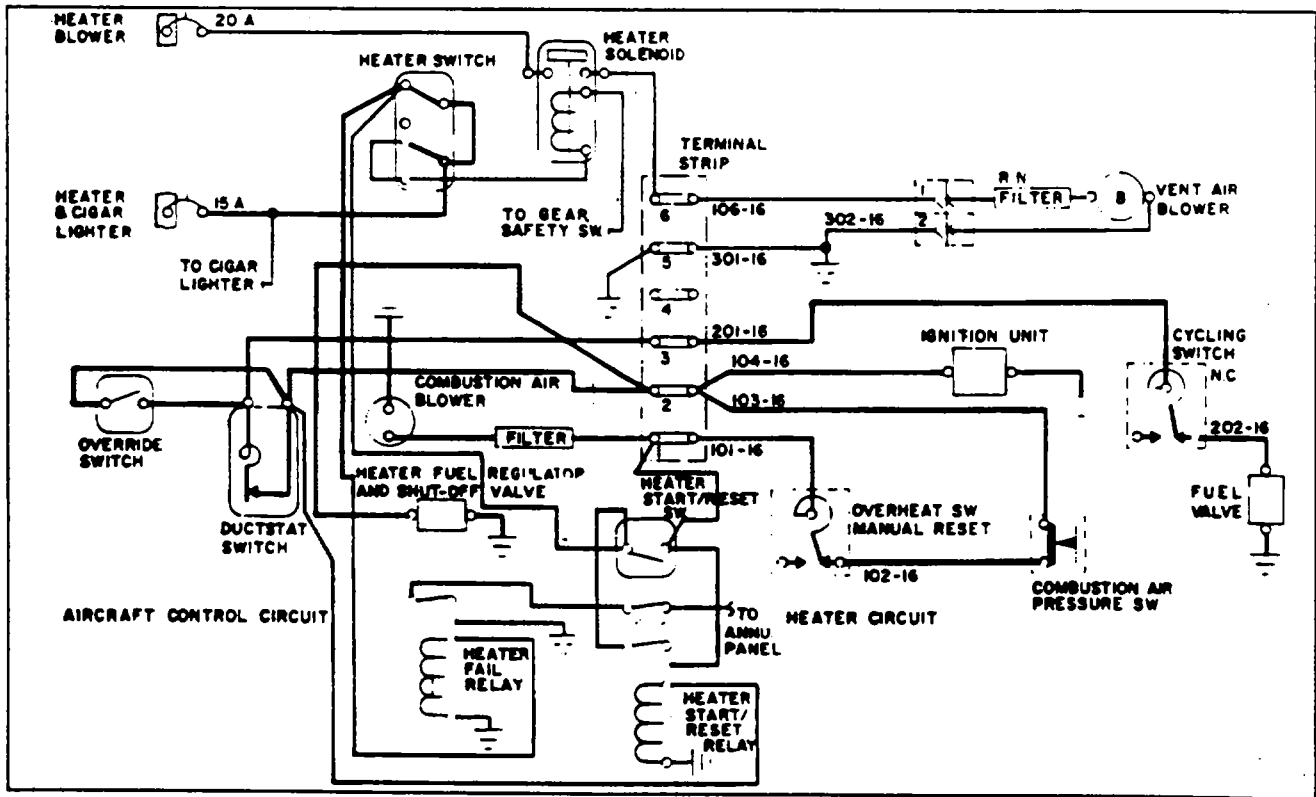

Figure 21-7. Heater Power Circuit
1. With the HEATER SWITCH in the HEAT position, electrical continuity should be present at the following locations. (Refer to Figure 21-7.)